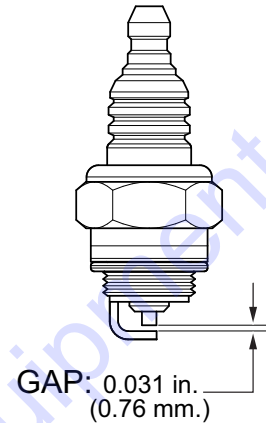

Figure 27. Spark Plug Gap
1. Remove and clean the spark plug (Figure 27), then adjust the spark gap to 0.031 inch (0.76 mm). This unit has electronic ignition, which requires no adjustments.